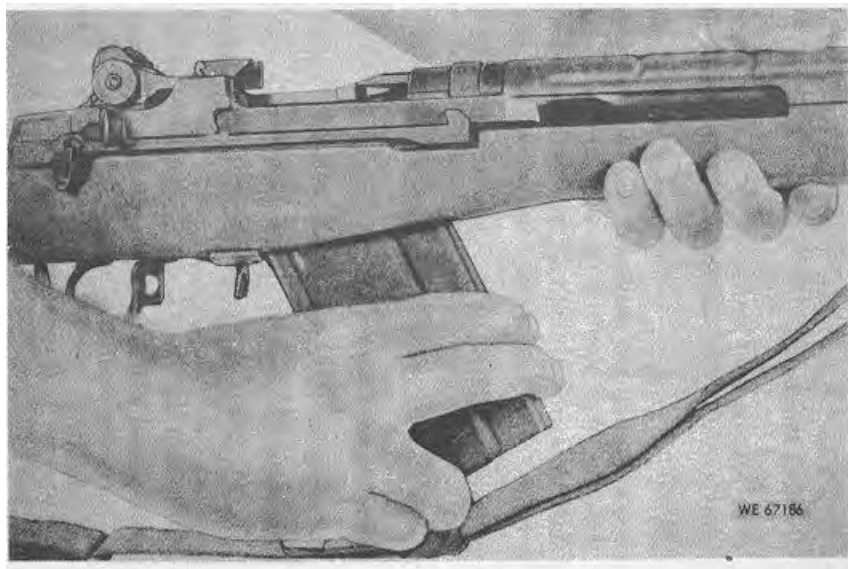

Figure 2-5. Loading magazine into rifle.
(1) Move SAFETY to safe position.
(2) Insert a loaded magazine into the magazine well until the operating rod spring guide engages the magazine (fig. 2-5).
(3) Pull backward and upward until the magazine latch snaps into position. A click will be heard to indicate that the magazine is fully seated.
(4) Pull back and release the operating rod handle to allow the bolt to strip the top cartridge from the magazine for chambering.